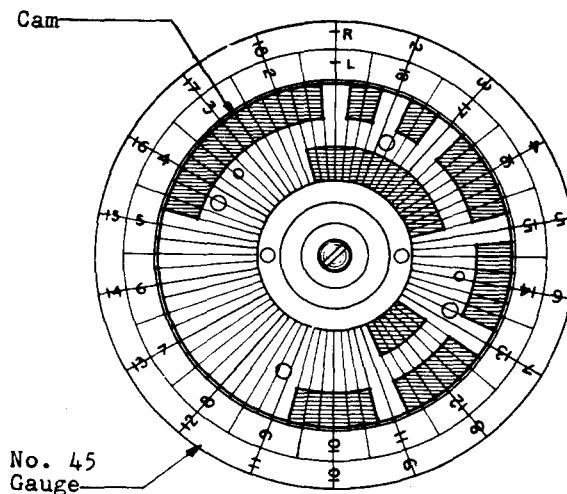
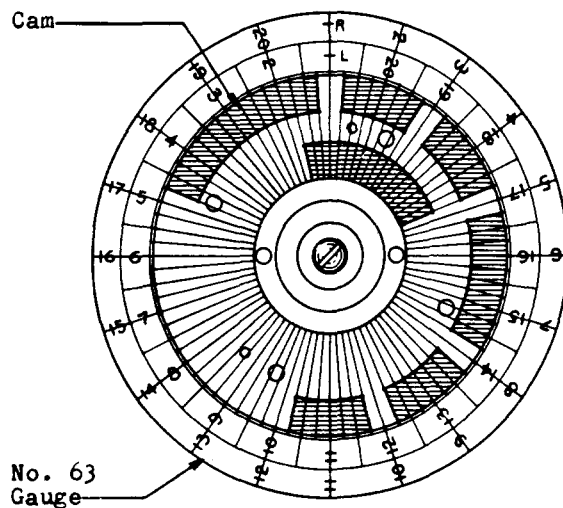

Fig. 15 - Method of Locating and Checking Positions of 18-position Cams With the No. 45 Gauge
Fig. 16 - Method of Checking 20-position Cams With the No. 63 Gauge
3.34 Hold the camshaft vertically and place the index wheel end of the shaft over the tip of the No. 258 cam spindle. Transfer the cams and collars to the spindle until the first cam or collar to be removed is reached, being careful to retain the transferred cams in alignment on the spindle. Insert the replacement cam on the spindle so that it is in alignment with the others and then remove the cam to be replaced from the assembly. Continue in this manner until all the cams or collars to be replaced have been removed. Be careful to arrange the replacement cams on the spindle so that they are in their proper positions, the letters stamped on the cams are in alignment, and all the rivet heads will be toward the index wheel when assembled on the camshaft. Check the new cams with the No. 45 or the No. 63 gauges as shown in Fig. 15 or Fig. 16 before placing them on the spindle. If the camshaft is to be replaced, transfer all the cams and collars to the No. 258 cam spindle at this time.